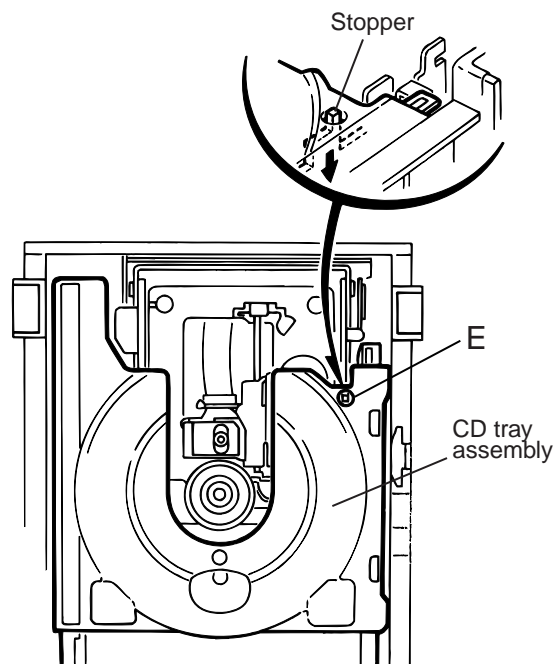

Fig.5
11. Check whether the lifter unit stopper has been caught into the hole at the section "E" of CD tray assembly as shown in Fig.5.